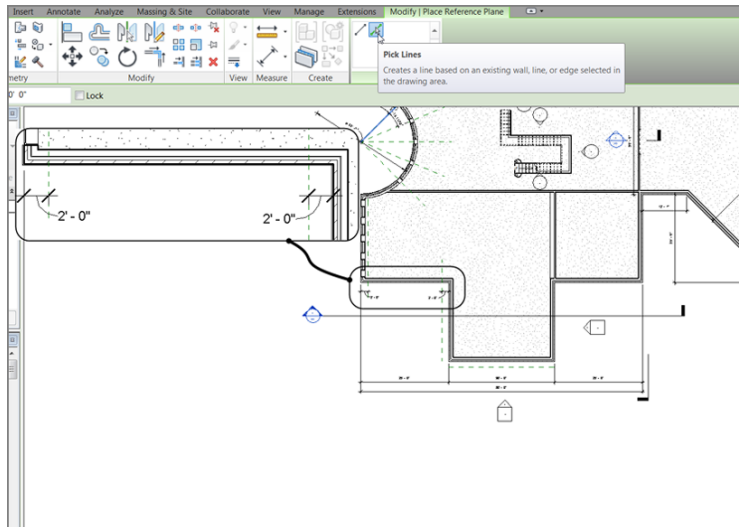

FIGURE 16.27: Offsetting two reference planes 2'-0" (600mm) from the face of brick
3. Offset a reference plane 2'-0" (600mm) from the face of brick, as shown in Figure 16.27.